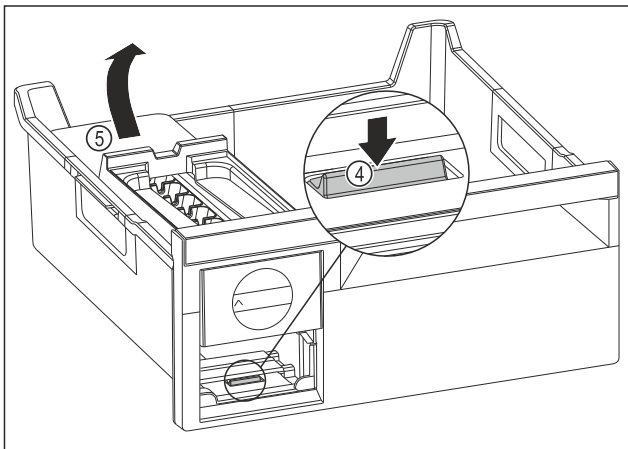

Fig. 124
- ▶ Removing the EasyTwist-Ice body: Use your finger to press the tab Fig. 124 (4) downward while at the same time lifting the EasyTwist-Ice body Fig. 124 (5) from behind with the other hand.